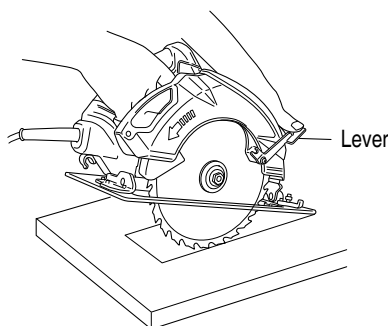

Fig. 13
1. Mark the desired cutting area clearly with lines all side. (See Fig. 13)
3. Push the lever all the way back so the blade is exposed as shown in Fig. 13.